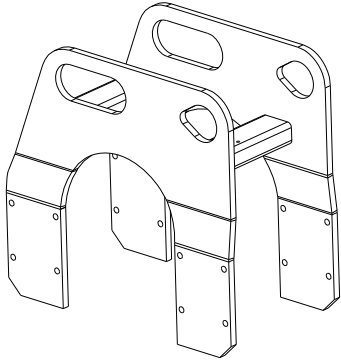

Fig. 6-3 VMS Top Frame
- x VMS (Fig. 6-3).
The VMS type frame (Fig. 6-3) is available as an option. The variable mounting system offers the combination of ease and versatility if the Ho-Pac is transferred between multiple carriers.